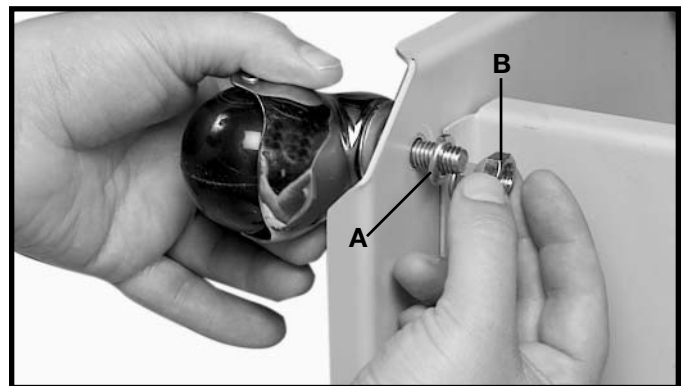

Fig. 4
4. Place a 3/8" lockwasher (A) Fig. 4 onto each bolt.
5. Thread a 3/8-16 hex nut (B) Fig. 4 onto each of the four bolt heads and tighten securely.